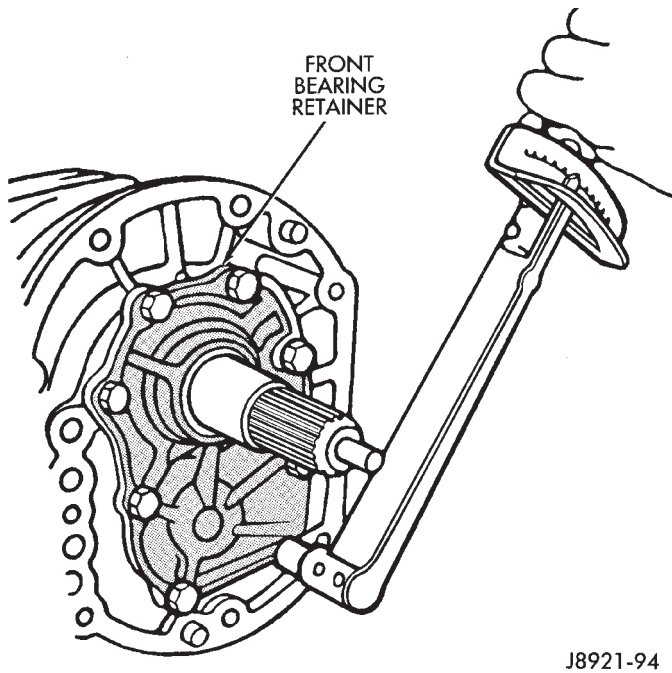

Fig. 94 Installing Front Bearing Retainer
(5) Install new gasket on front bearing retainer and install retainer on case (Fig. 94).